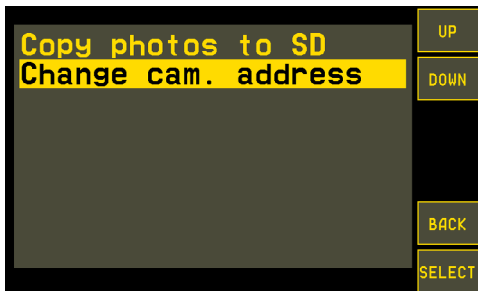

Fig.33. Change of camera address.
- turn on AutoGRAPH-INFO-TFT and select *Main menu/Settings/Camera/Change cam. address* (Fig.33);